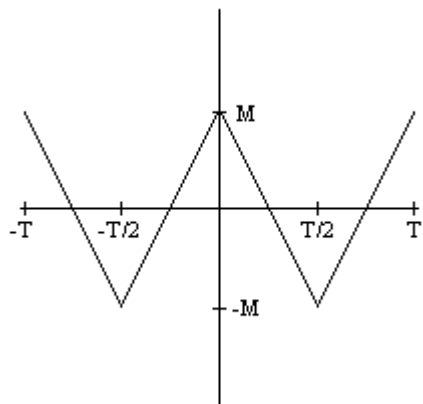

Figure 4: Triangle-Wave Input (to the Low-Pass Filter)
5. For $M = 15V$ and $T = 3ms$, write down the first three non-zero terms in the Fourier series expansion of the triangle wave shown in Figure 4.